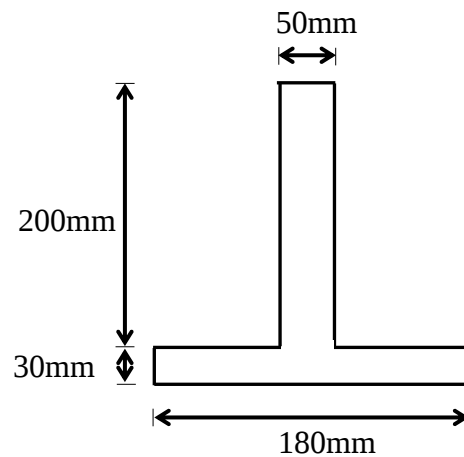

Figure A2(a)ii / Rajah A2(a)ii
- CLO1 (ii) Figure A2(a)ii shows a T sectional beam. Calculate the centroid of the section at y-axis and x-axis.